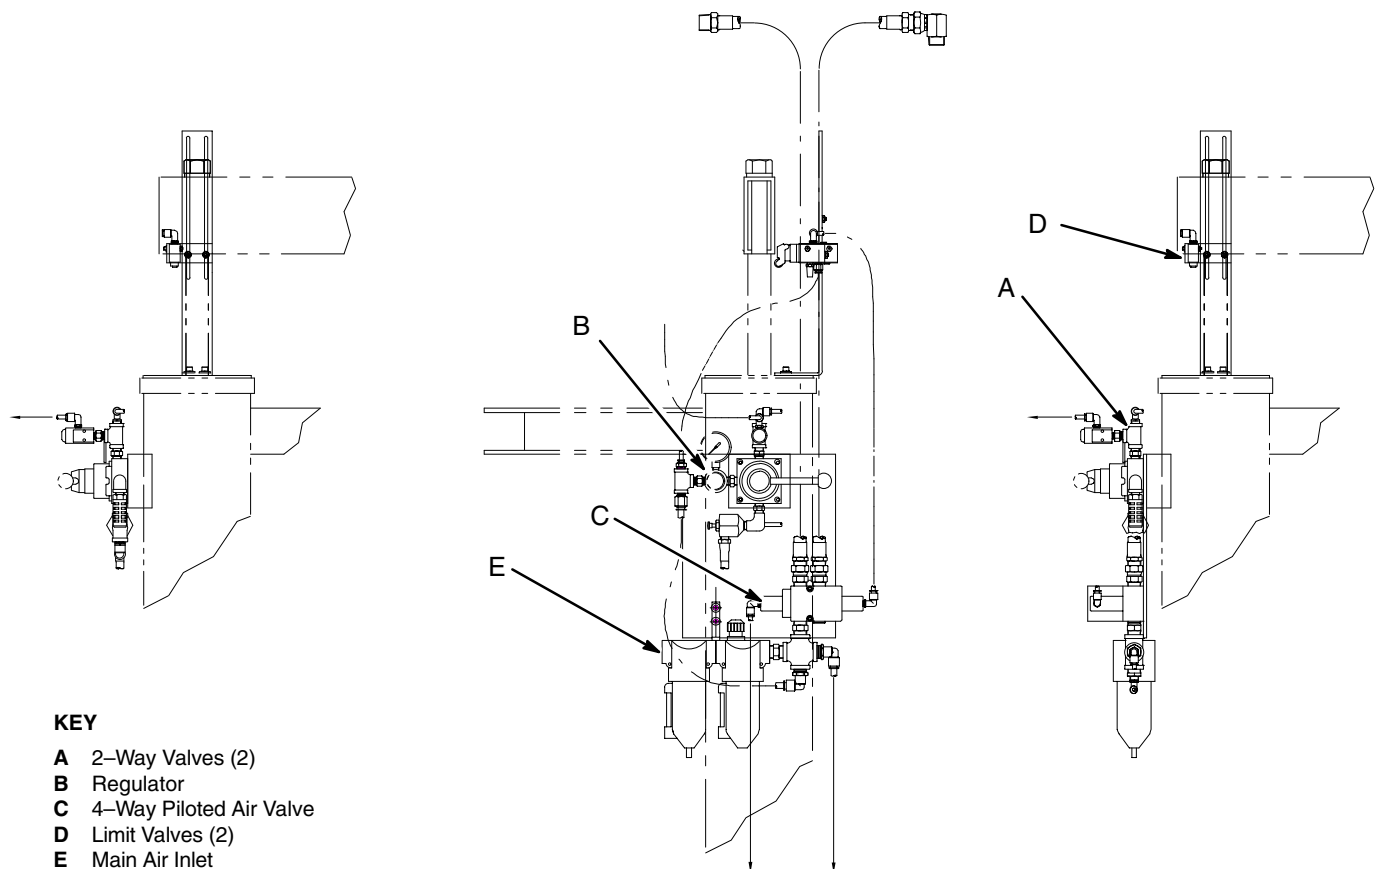

Fig. 3
Install the pneumatic crossover as shown in Fig. 3. Refer also to manual 310293.
NOTE: The position of the limit valve (D) on the ram determines when the ram air motor is turned on and off. During operation, this position can be adjusted as desired. See Fig. 3.